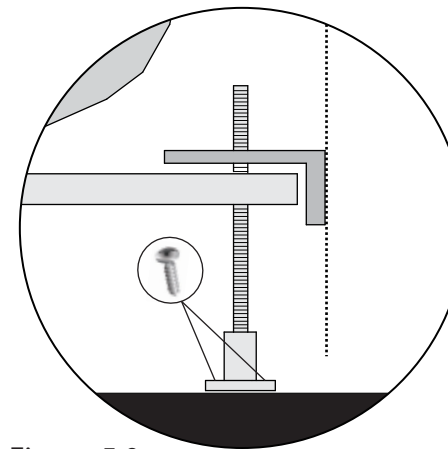

Figure 5.0
2. The Bath (Part J) can be pushed into the desired installation position and the Bath Leg Feet (Part I) can be attached to the floor (no screws are provided). (See figure 5.0)